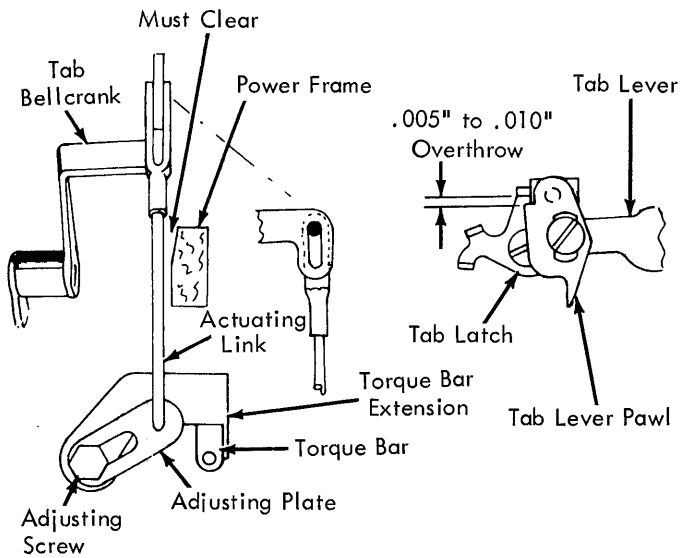

FIGURE 242.1. Adjusting Plate, 11 Inch Machine
5. Adjusting Plate, 11 Inch Machine (Fig. 242.1) - Position as follows: